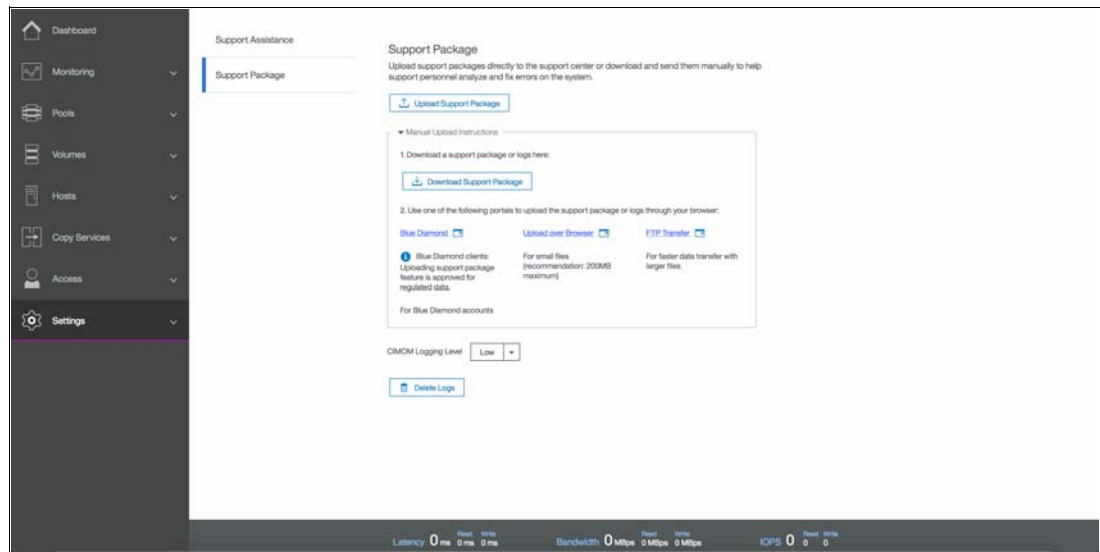

Figure 9-20 Support panel under Settings menu
1. Navigate to **Settings** → **Support**. In the Support panel click Support Package as shown in Figure 9-20 on page 426. Click **Manual Upload Instructions** to display the **Download Support Package** button.